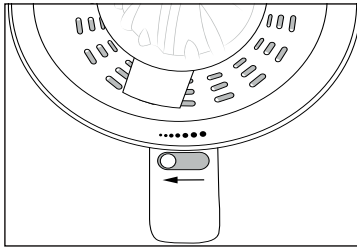
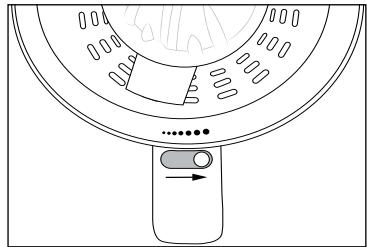

Fig. 2
Fig. 3
- ◆ Use the selector switch ⑥ to set the pulp content of the juice on a scale from fine (small pieces, Fig. 2) to coarse (larger pieces, Fig. 3).